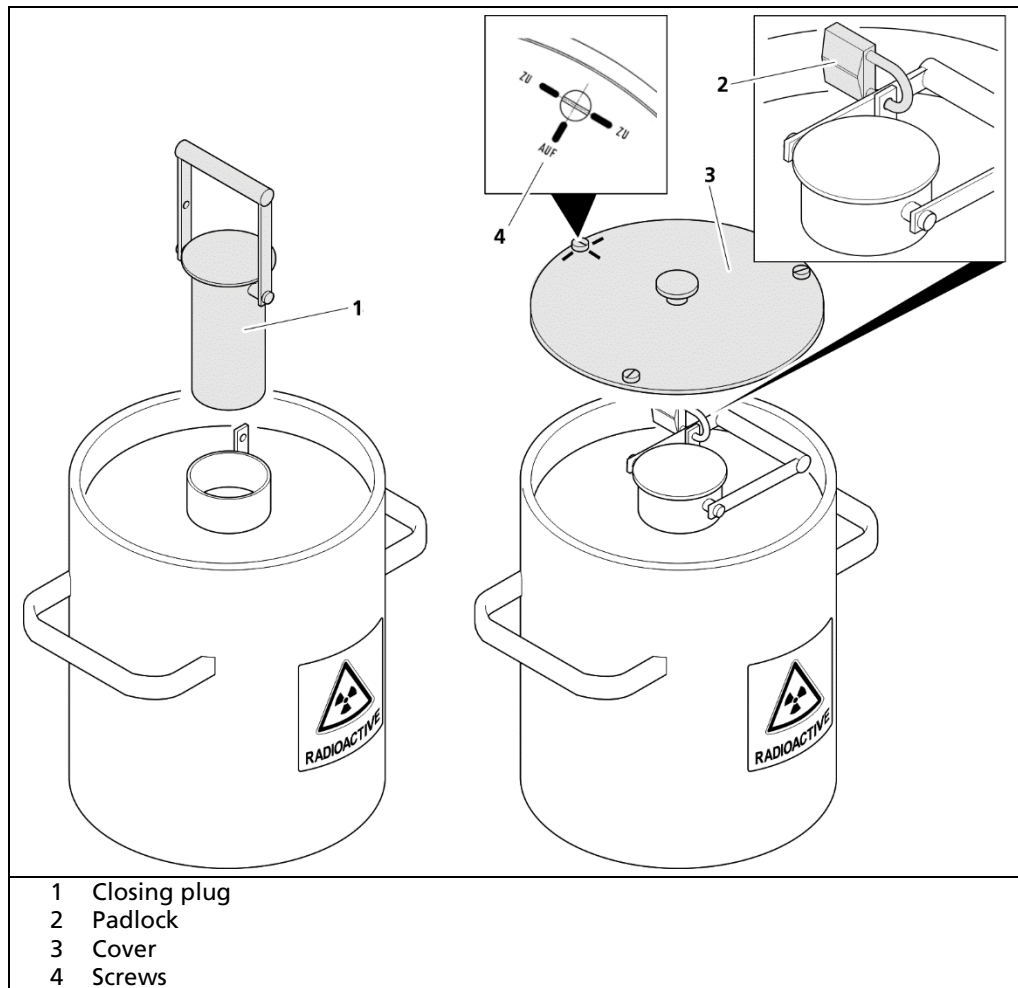

Fig. 11 Close transport shield
3. Insert the closing plug (Fig. 11, Item 1).
4. Attach the padlock (Fig. 11, Item 2).
5. Attach the cover (Fig. 11, Item 3).
7. Turn the three slotted screws to the CLOSED position (Fig. 11, Item 4).